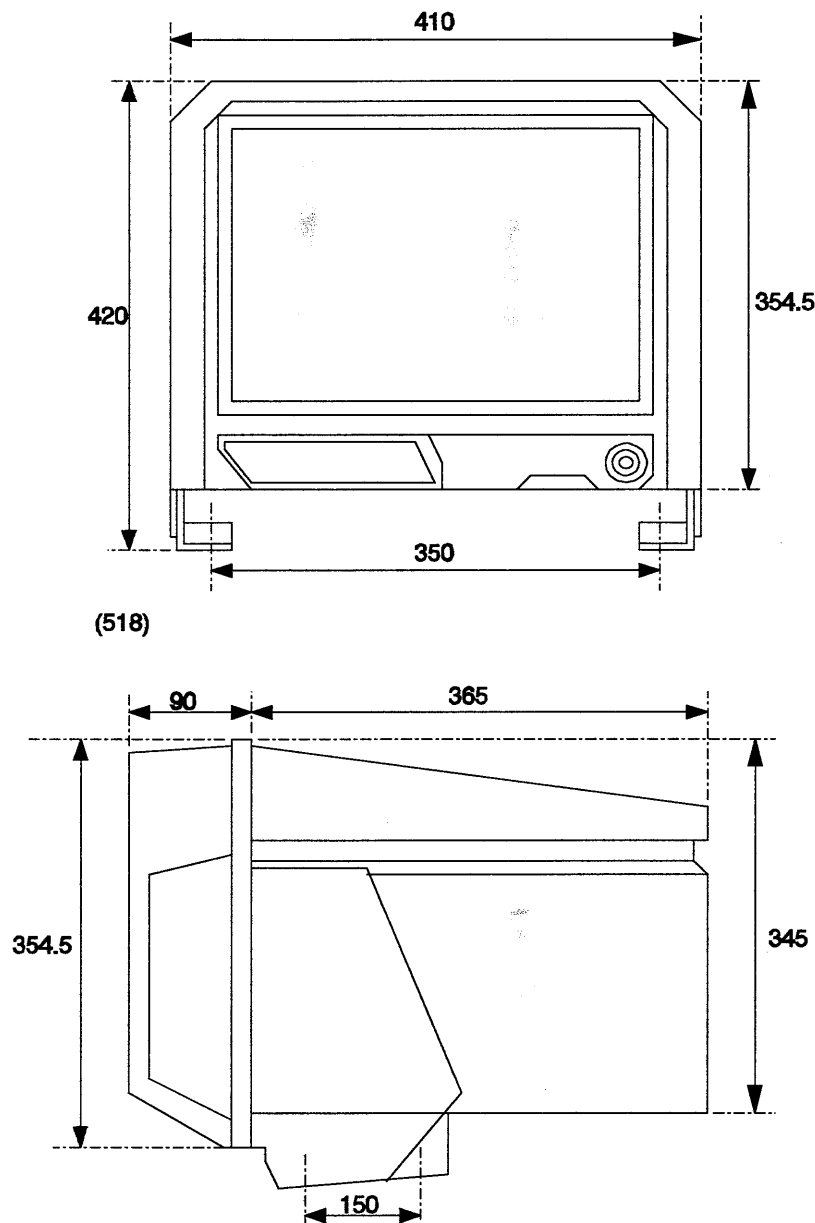
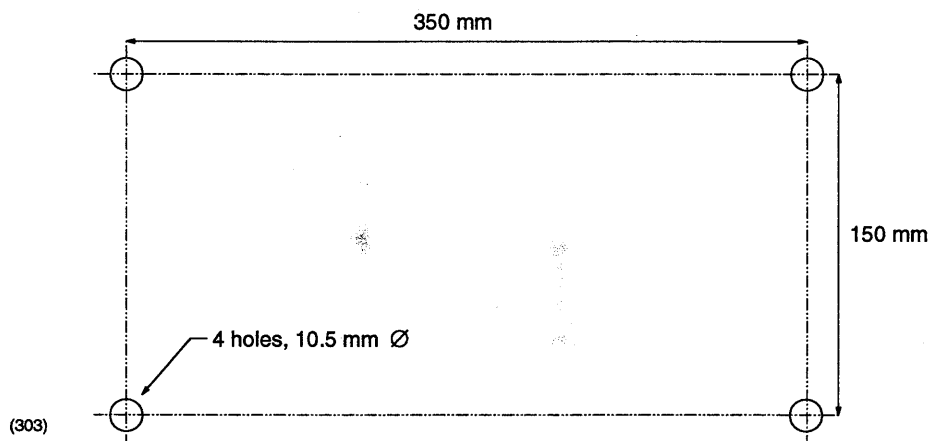

Figure 4 The CF 140 outline dimensions
Figure 5 The CF 140 Table-top mounting holes location
Refer to Figure 4 and Figure 5 for unit dimensions and hole positions. Note that neither figure is to scale.
3. The side panels may be mounted on any suitable surface, or hanging from the bulkhead or deckhead. Mount the two side-panels using pre-drilled mounting holes. (Refer to Figure 5). Use 10.5 mm bolts and nuts, or wood screws if required. (Do not use wood screws if mounting on the bulkhead or deckhead. Drill only pilot holes if wood screws are to be used).